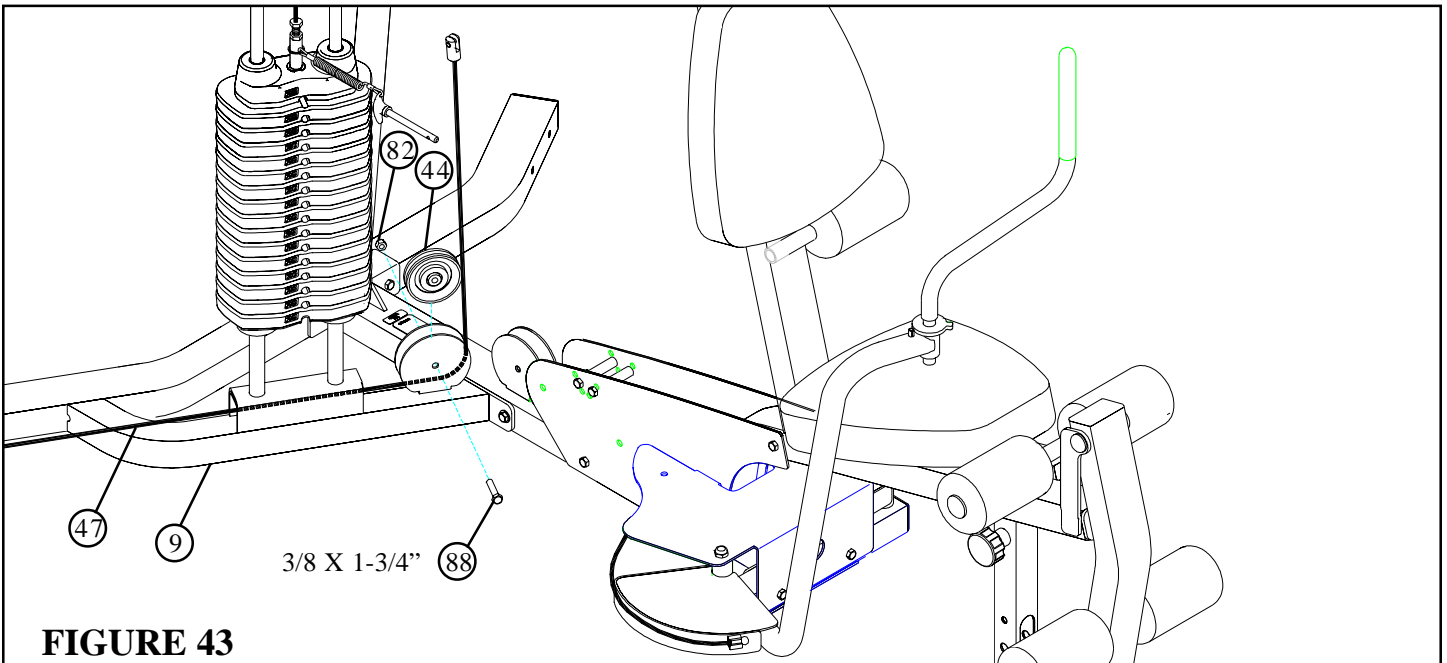

FIGURE 43
- Route the PRESS/LEG CABLE (47) thru the tube and behind the GUIDE RODS on the BASE FRAME (9) as shown in FIGURE 43. Slide GUIDE RODS up just enough to get the cable end thru. Push GUIDE RODS down when finished.
- Route the PRESS/LEG CABLE (47) around one 3-1/2" PULLEY (44) and assemble the 3-1/2" PULLEY (44) to the bracket on the BASE FRAME (9) using one 3/8 X 1-3/4" BOLT (88) and one 3/8" LOCK NUT (82). See FIGURE 43.